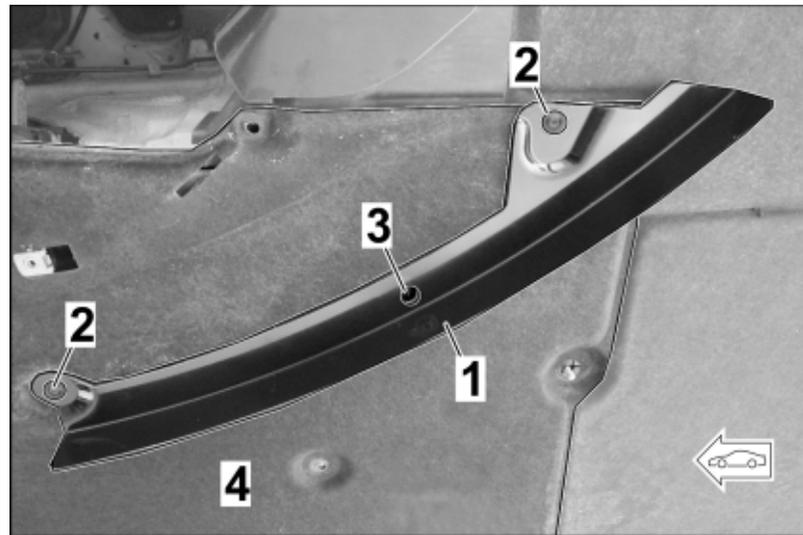

Figure 34
- 6.2.1 Mount the respective air control element (inside) with screws (2 pcs.) at the existing fastening points (front/rear) on the underbody cover (front) on the corresponding side (left/right) (⇒ *Figure 34*).
- 6.2.2 Replicate middle hole in air control element (inside ⇒ Figure 34 -3-) on the underbody cover (front).